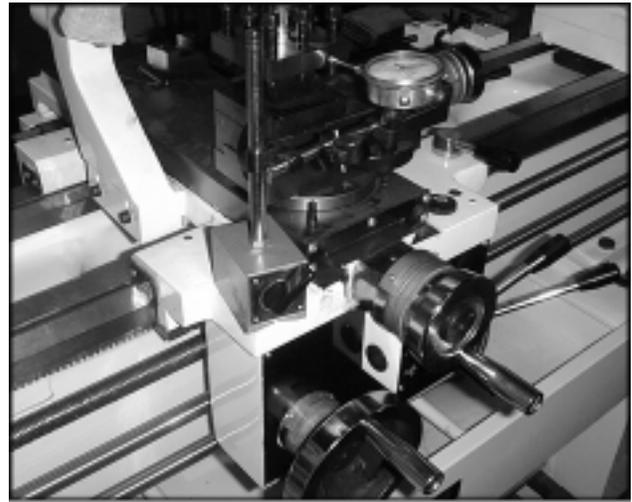

Fig. 7
28. Using a dial indicator mounted to the carriage indicate along the tool post, while moving the carriage, (Figure 7). You are checking to see that the taper slide is parallel to the movement of the carriage.